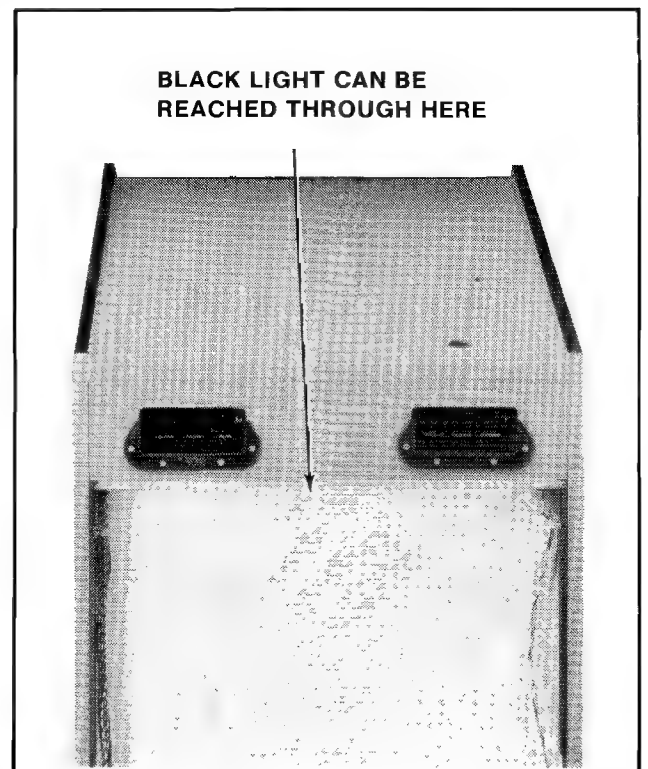

Figure 4-16 Replacing Black Light
- ☐ The ultraviolet light tube may be replaced at this time by removing the rear access door of the game and the back scenery panel if necessary. See Figure 4-16. BE CAREFUL NOT TO DROP IT.